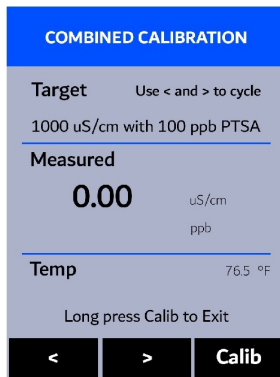

Figure 6.
3. Press **C-Cal** (**>**) to launch the **COMBINED CALIBRATION** screen (Figure 6).